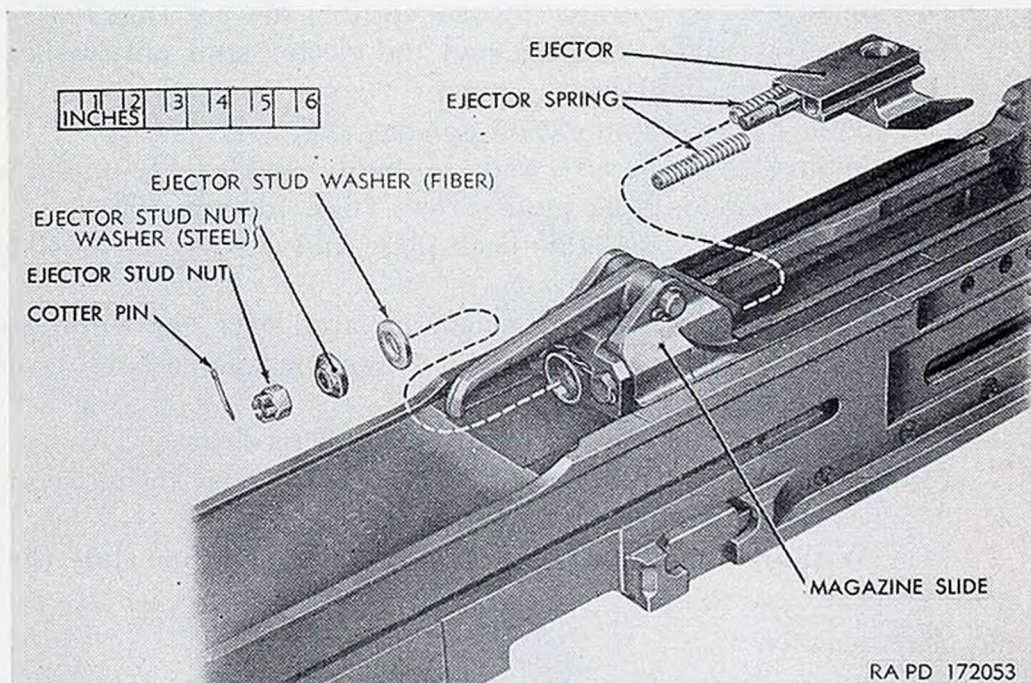

Figure 104. Ejector removed from magazine slide.
- (5) Remove ejector and ejector springs (fig. 104).